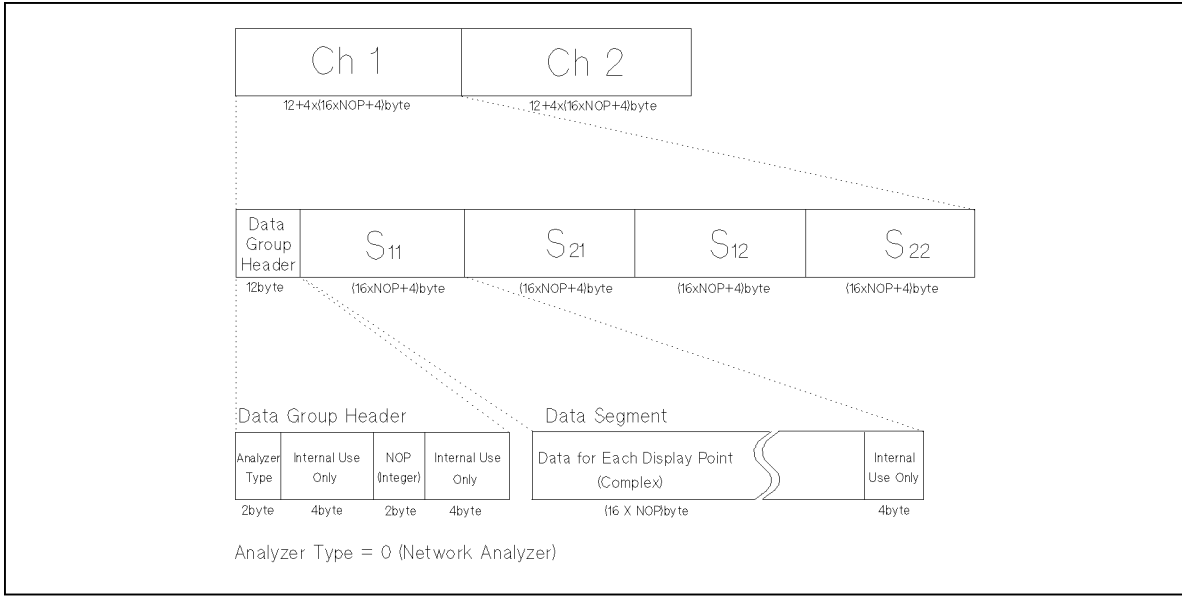

Figure C-2. RAW Data Group Structure for the Network Analyzer
- *RAW DATA* of the network analyzer consists of a header and four data segments per channel as shown in Figure C-2. They will follow the file header in this order: